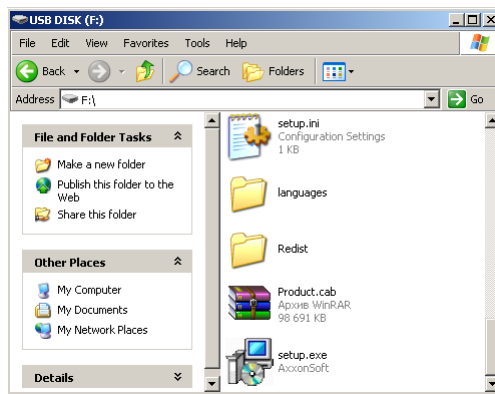

Fig. 3.2—1 Contents of the installation disk
1. Insert the Axxon Smart installation CD into the CD-ROM drive. A dialog box will display the disk contents (Fig. 3.2—1).
2. Run the Setup.exe file (see Fig. 3.2—1).